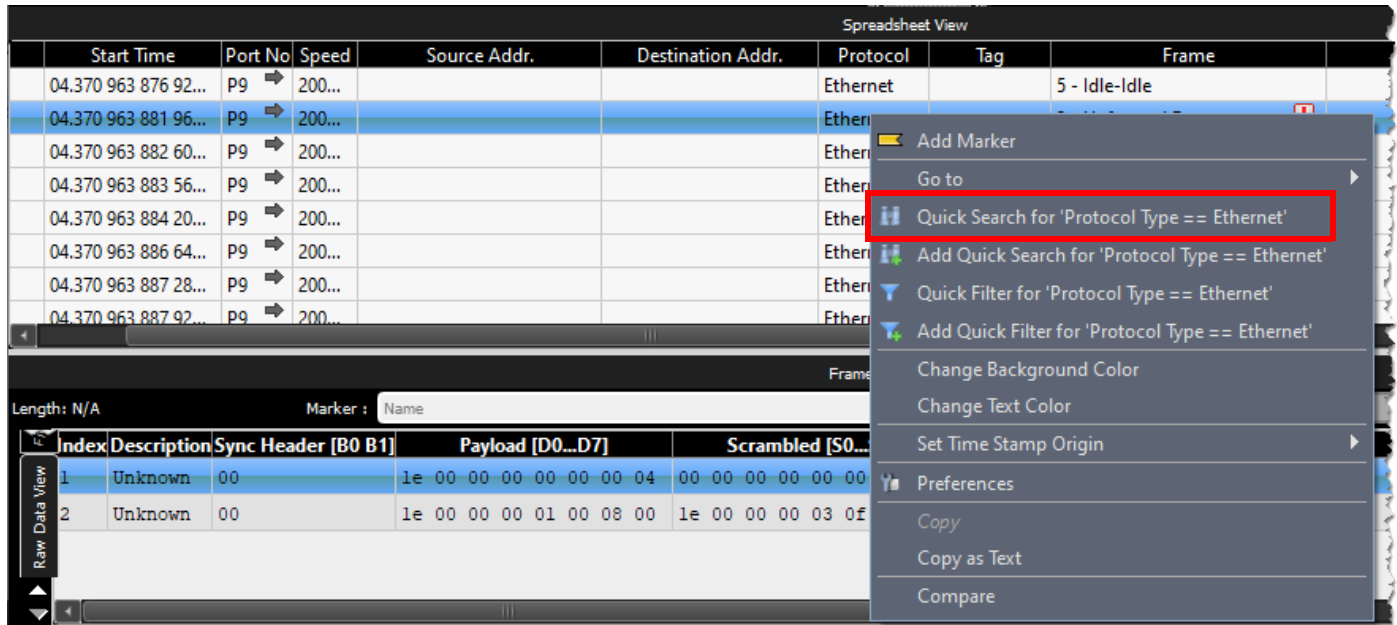

Figure 5.141: Quick Search Drop-Down Menu
- b. In the Spreadsheet View window, right click in a column/line of a Trace and select **Quick Search** from the drop-down menu (Figure 5.141), then click **Advanced**.